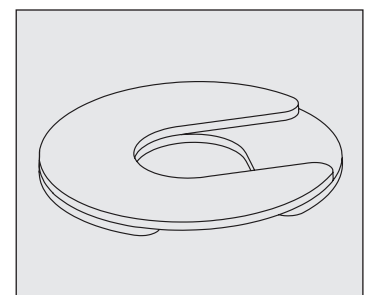

Fig. 10. Install multiple shims with offset slots.
- If more than one shim is used, be sure shim slots are offset. See fig. 10.
- DO NOT use more than four (4) shims on a castor.